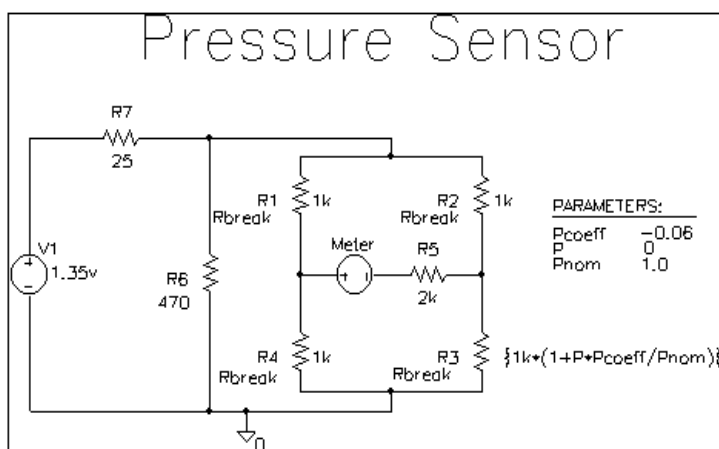

Figure 79 Pressure sensor circuit.
To begin, construct the bridge as shown in Figure 79.
Define the part values as shown in Figure 79. For the pressure sensor, you need to do the following:
- 2 Type the new value. Depending on the resistor you are changing, set its value to one of the following (refer to Figure 79).